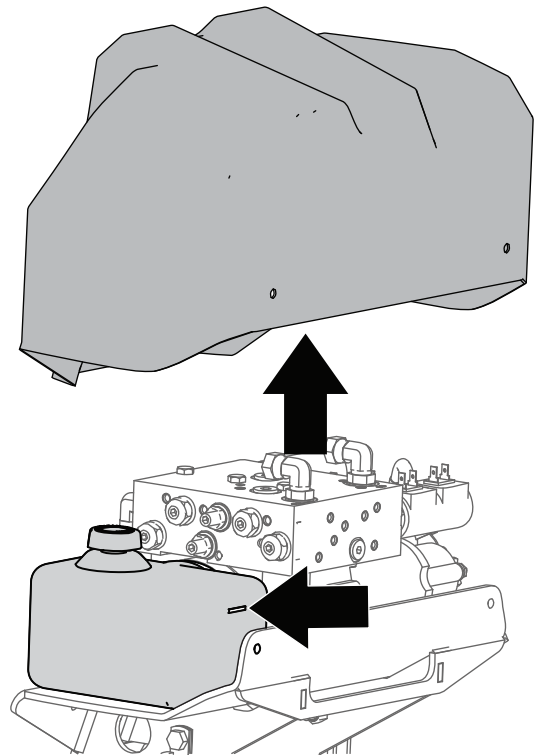

Figure 26
3. Ensure that the fluid comes up to the fill line on the side of the tank (Figure 26). If it does not, add more hydraulic fluid; refer to Adding Hydraulic Fluid (page 17).